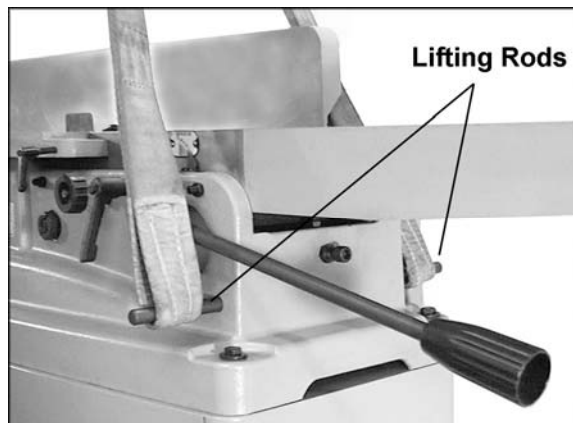

Figure 2
**CAUTION** The Jointer should be raised by straps placed around the four lifting rods (see Figure 2). Do NOT lift the machine directly beneath the infeed and outfeed tables, as this can cause misalignment of the tables.
3. Pull the four lifting rods out as far as they will go and run the straps around the rods as shown in Figure 2. Using a forklift or hoist, lift the machine off the pallet and into its desired location. When the straps are removed, push the lifting rods back in.